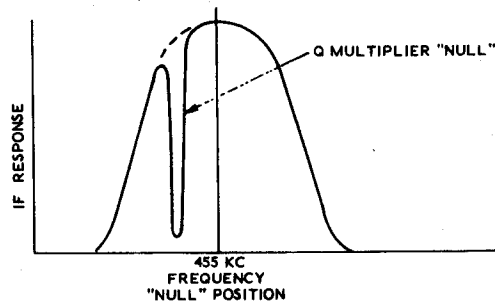

Figure 5
2. It can be used to null out an unwanted signal by performing like a very high Q series resonant circuit. See Figure 5. Here, the unwanted signal "sees" a very low impedance and is shunted to ground by the Q Multiplier. All other signals see the normal high impedance and pass on through the receiver. The null point can be adjusted to any point in the IF bandpass, therefore a heterodyne adjacent to the desired signal can be dropped into the notch (null point) and eliminated.